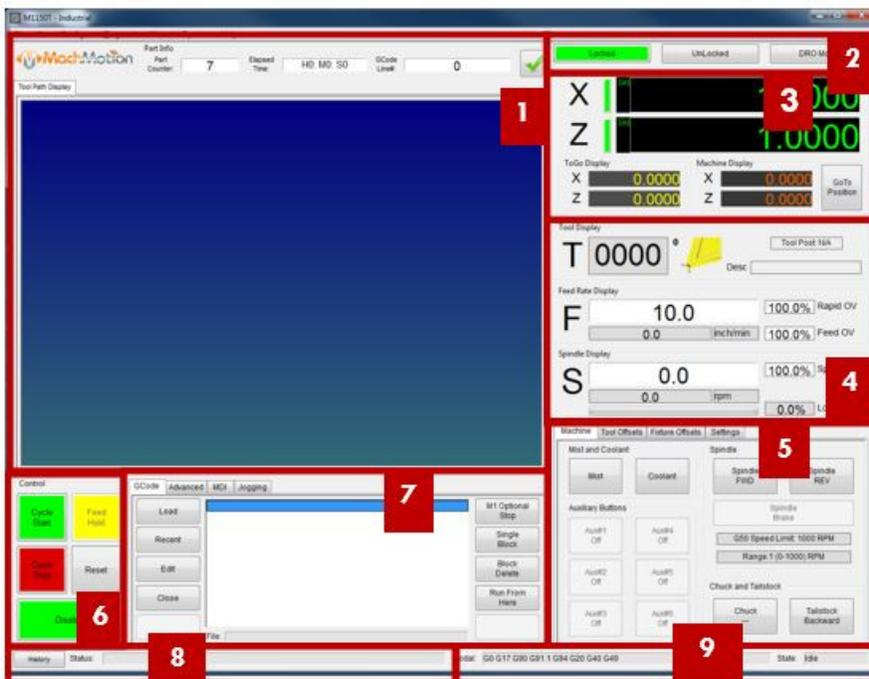
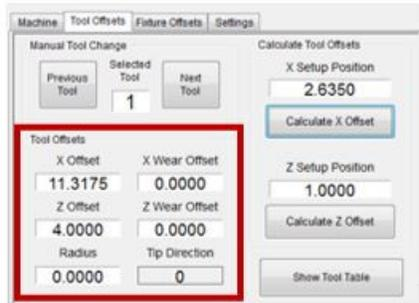

Figure 2 – STANDARD Control Screen Overview
Figure 3 - Tool Offsets
To home the Lathe, begin by enabling the system (Figure 2 #6). Click **[UnLocked]** button (Figure 3). To home all axes press the **[Home All]** button. Each axis can also be homed using the individual axis home buttons. Once an axis has been homed, the axis LED display will be green.
All tool offsets are shown in the tool offsets tab (Figure 2 #5). To edit the offsets, press **UnLocked**] (Figure 3).
Tool offsets can be set or viewed in the in the *Tool Offsets* (Figure 13) by pressing the **Show Tool Table**] (Figure 3).
3. Open the *Tool Offsets* (Figure 13) by pressing the **Show Tool Table**] (Figure 3)